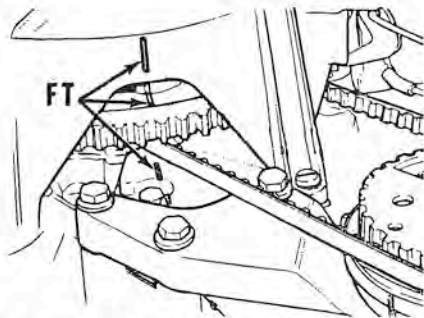
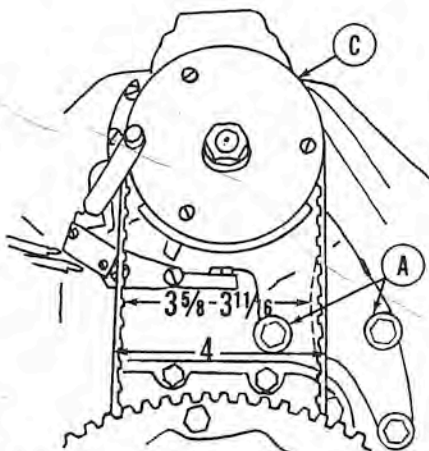

Fig. J90—Engine timing marks are located on starter housing, flywheel and engine block as shown at (FT).
Fig. J92—Drive belt tension adjustment is correct when belt can be deflected 5/16 to 3/8 inch as shown. Adjust by loosening bracket attaching screws (A).
Fig. J91 — When installing magneto drive belt, first align flywheel timing marks as shown in Fig. J90, then install belt with magneto pulley and mounting bracket marks aligned as shown at (MT).
pulley cover (C—Fig. J92) and loosen the magneto bracket screws (A); then slip belt off magneto pulley. Slowly turn the engine flywheel until timing mark on flywheel aligns with similar mark on block and manual starter housing as shown at (FT—Fig. J90); then turn magneto pulley until the timing marks are aligned as shown at (MT—Fig. J91). Slip belt over magneto pulley using care not to disturb the timing. Move magneto in or out to provide 5/16 to 3/8-inch belt deflection when measured midway between pulleys as shown in Fig. J92; then tighten the bracket screws (A).